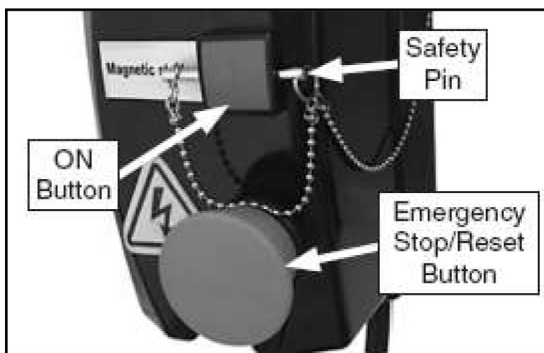

Fig.30
7.1 Electrical Operation(*Fig.30*)
ON Button: Starts the motor (*see Figure 30*).
Safety Pin & Chain: When installed (*see Figure 30*), disables the ON Button to prevent accidental startup.
Emergency Stop/Reset Button: Turns machine OFF. Rotate clockwise to reset. (*see Figure 30*).
Turn the machine OFF: Insert the switch disabling pin through the green ON button, as shown in *Figure 30*.